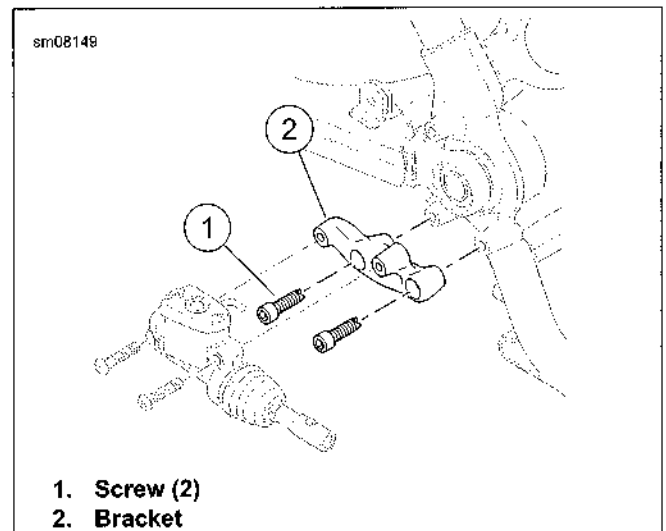

Figure 2-69. Master Cylinder Mounting Bracket
1. See Figure 2-69. Install the bracket.